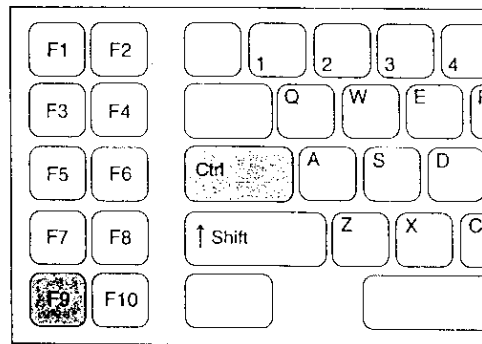

Fig. 25
1. To clear the previous entries for the screen information fields, hold the Ctrl key down and press F9 (Fig. 25). All fields will be reset to blank except the Clock, Date and Hospital Name. The scope's model name will also remain unchanged if a scope is connected.